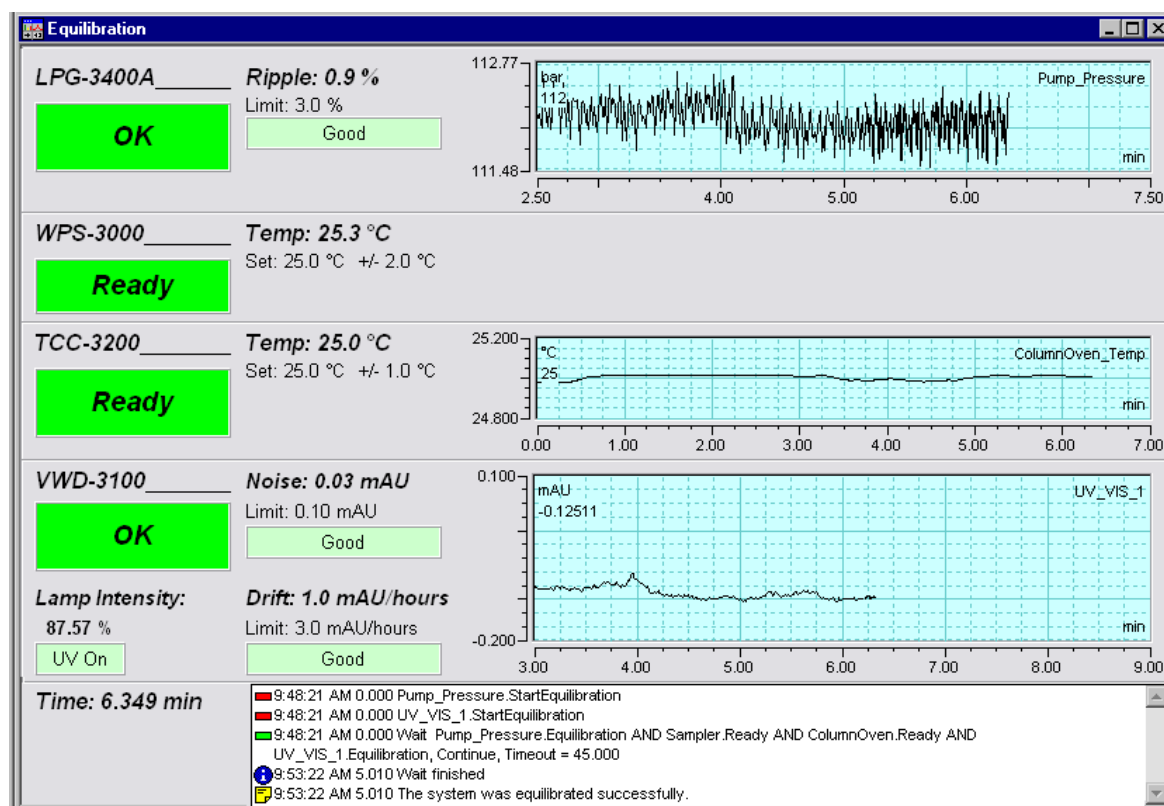

Fig. 30: Equilibration panel
- ◆ Opens the equilibration control panel for the instruments in the timebase (→ Fig. 30, page 50).